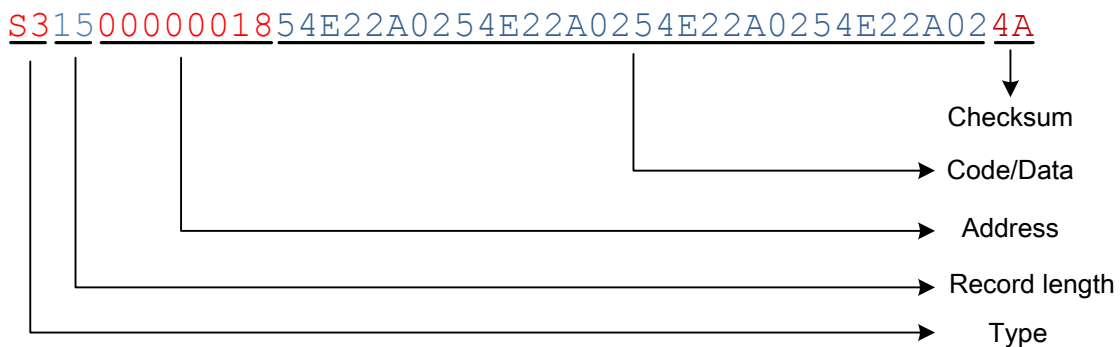

Figure 4. S-record encoding scheme
In the s-record shown in Figure 4, there are total 0x15 bytes (treat a pair of characters as a byte)
- **Address:** The 32-bit word address at which the code/data field is to be loaded into memory. In the s-record shown in Figure 4, the active code/data will be placed from the address 0x00000018 in program flash. Since there are only 21 effective bits for the address in DSC series, bit 25 is used to indicate program or data memory.
- **Code/Data:** From 0 to n bytes of executable code, memory loadable data, or descriptive information. It is descriptive information in S0 record, and code/data in S3 record. There’s no code/data in S7 record. There should be a 16-bit word in each memory cell of flash and RAM, but in the code/data section of s-record, the byte order mode is little-endian. In the s-record shown in Figure 4, “54E22A0254E22A0254E22A0254E22A02” means 0xE254 is placed into address 0x000018, and 0x022A into address 0x000019, and so on.
- **Checksum:** The least significant byte of the one’s complement of the sum of the values represented by the pairs of characters making up the record length, address, and the code/data fields. In the s-record shown in Figure 4, the checksum 0x4A is actually the one’s complement of “0x15+0x00+0x00+0x00+0x18+0x54+0xE2+...+0x2A+0x02”. This checksum can be used in the boot loader to check if received record is correct.